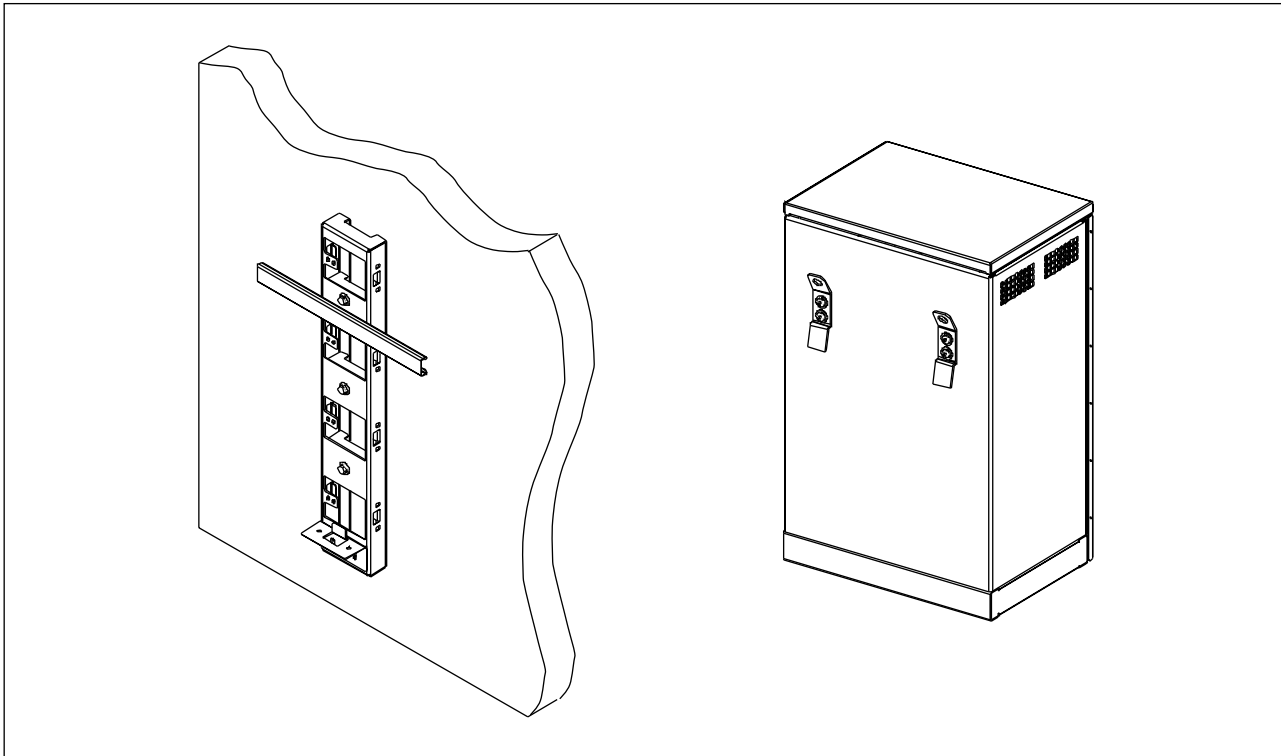

Figure 4-10. Wall-Mount Assembly Installed on Wall
5. Secure the bracket to the wall using an appropriate anchor. See Figure 4-10 on page 4-22. Level the bracket before tightening the bolts.